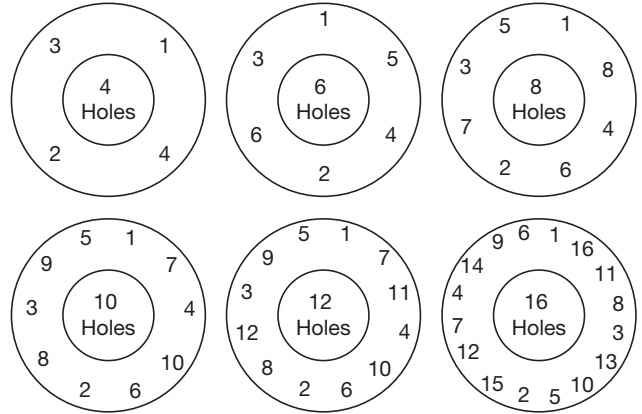

Figure 16: Bolt Tightening Patterns
- Install Coverplate on top of Base such that the vent port and dome port is on the outlet side of the valve center line. Carefully lower the Coverplate bolting and torque uniformly, making sure that there is a uniform gap between the Base and the Coverplate. Torque to the values shown in Table 4 in 15 ft-lb (20 N-m) increments making sure there is a uniform gap between the Base and the Coverplate. Torque in the sequence shown in Figure 16.
- Install Coverplate on top of Base such that the vent port and dome port is on the outlet side of the valve center line. Carefully lower the Coverplate bolting and torque uniformly, making sure that there is a uniform gap between the Base and the Coverplate. Torque to the values found in Table 4 using the torque patterns in Figure 16 and Table 5.